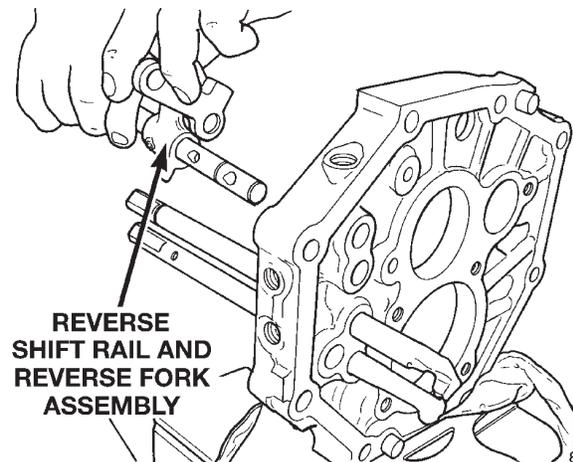

Fig. 70 Remove Reverse Shift Rail
(27) Remove reverse shift rail and reverse shift fork and arm assembly from intermediate plate (Fig. 70).